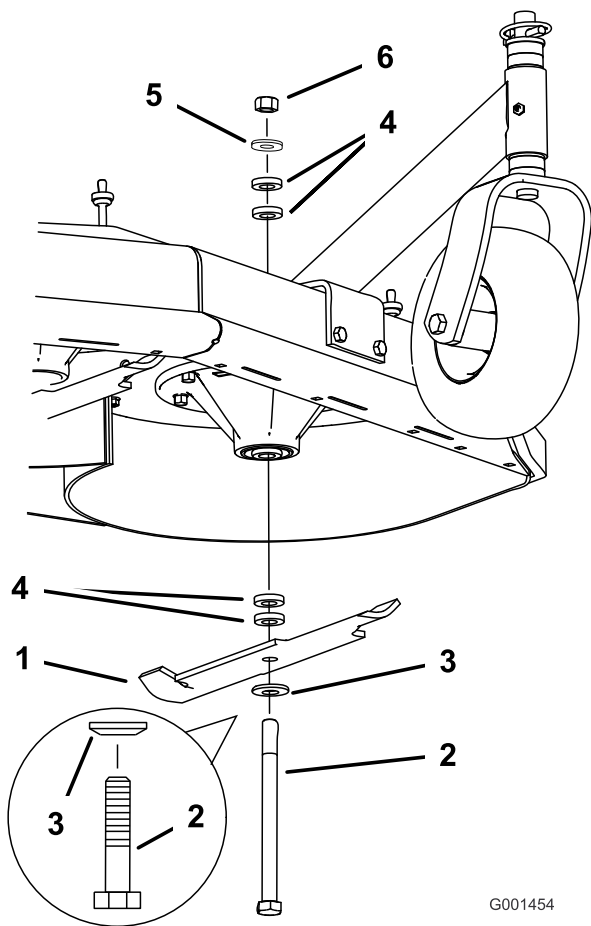

Figure 50
2. Remove the nut, blade bolt, curved washer, blade, spacers, and thin washer from the spindle (Figure 50).
1. Place the blade onto the bolt and over the cone washer. Select the proper number of spacer(s) for the height-of-cut, and slide the bolt into the spindle (Figure 50).